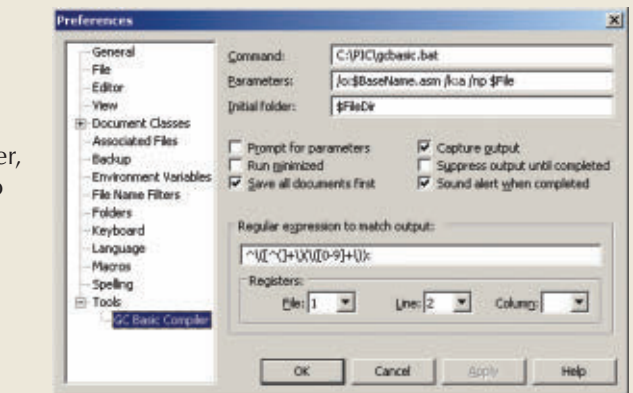

Figure 3: The tool entry box for the compiler.
9. Fill in the box according to the screenshot in **Figure 3**. Most entries will be defaults. Obviously, change anything that applies specifically to your system that might be different from mine.
■ FIGURE 3. The piezos.
Figure 3 shows a photo of the devices on the tape; this will help to make our part look more like the original. We see that it is 14 mm in diameter, and the legs are 5 mm apart and 18 mm long.